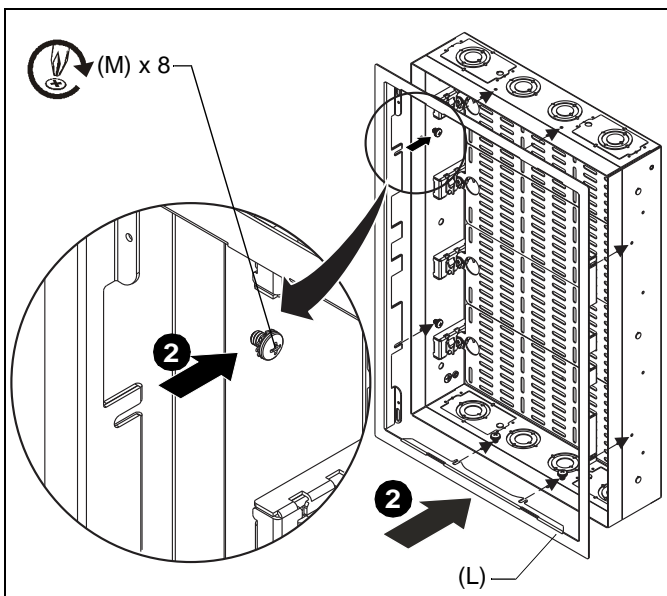

Figure 15
2. Slide flange (L) into PAC527 over installed screws, and tighten screws. (See Figure 15)